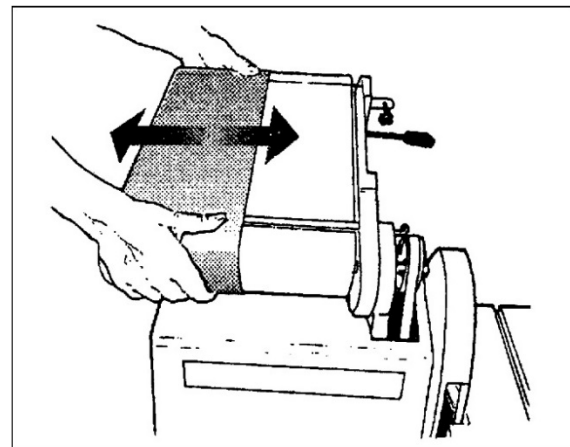

Figure 9: sanding belt removal
2. Position sanding belt platen (4) in vertical position. Remove eight screws (97) and guard (96).
3. Remove screw (76) and guard (75).
4. Move tensioning lever (50) downward to slacken sanding belt (79).
5. Slip sanding belt off drums (5) and (39). Also refer to Figure 9.